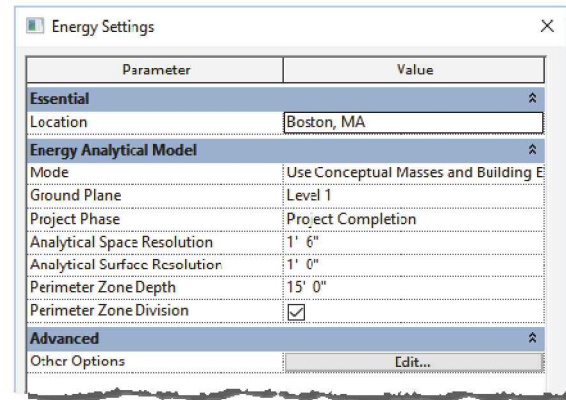

FIGURE 5-1.10 Adding Energy Data (partial view)
13. Click the **Edit** button next to the *Energy Settings* parameter. Enter the information shown (Figure 5-1.10).